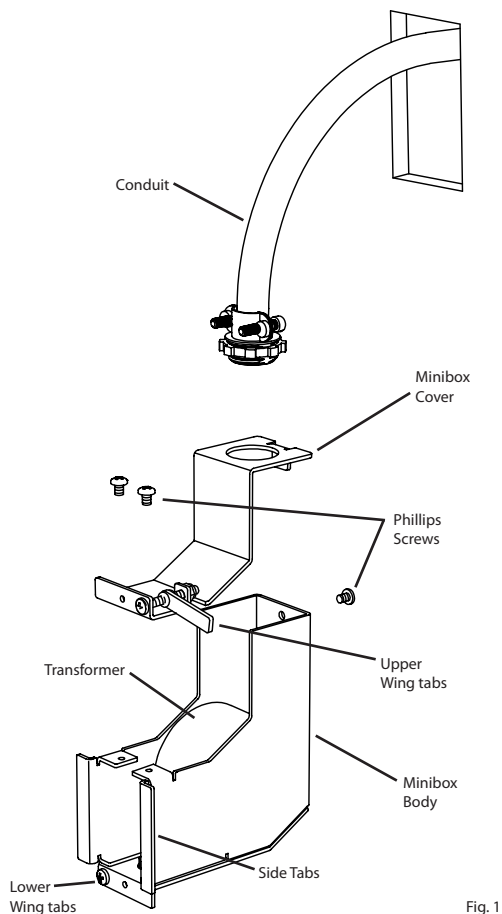

Fig. 1
3. Cut an opening in the mounting surface (minimum 3/8" thick) that measures 1.5" wide by 2.75" high (Fig. 1).
4. Pull 1/2 trade size **flexible metal conduit or building cable** through the opening (Fig. 1).
5. Remove the three **Phillips screws** and separate the Minibox into **upper and lower halves** (Fig. 1).
6. Remove the knockout tab from the **Upper Half** and attach the **Cable/Conduit** to the knockout opening using appropriate connectors (Note: Cable/Conduit and connectors not included) (Fig. 1).
- d. **For 60W and 75W unhooused Transformers only:** Carefully place connections and Transformer in lower half, with the connections in the section near the knockout (Fig. 1).
9. Reattach **Mini Box Cover and Body** by installing the three Phillips screws removed previously (Fig. 1).
10. Loosen the two **Mounting Screws** on the front face of the Minibox until the gap between the wing tabs and the side tabs is greater than the thickness of the mounting surface (Fig. 1).